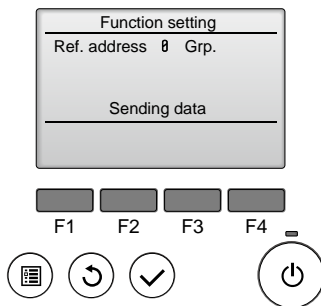
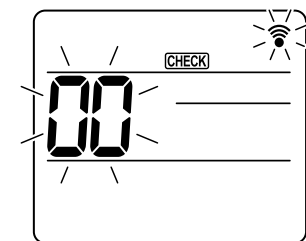
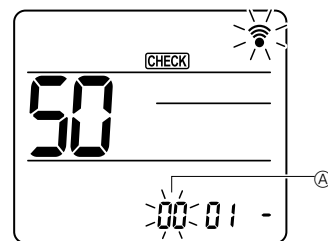
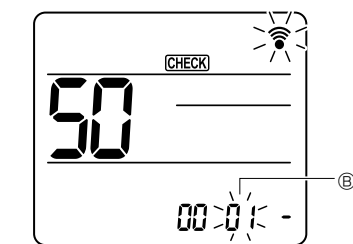

Fig. 6-15
Fig. 6-16
Fig. 6-17
Fig. 6-18
- ⑤ (Fig. 6-15)
- ① Going to the function select mode
- Press the [MENU] button between of 5 seconds. (Start this operation from the status of remote controller display turned off.) [CHECK] is lighted and "00" blinks. (Fig. 6-16)
- ② Setting the unit number
- Press the [5] button to set unit number ①. (Fig. 6-17)
- ③ Select a mode
- Press the [5] button to set Mode number ②. (Fig. 6-18)